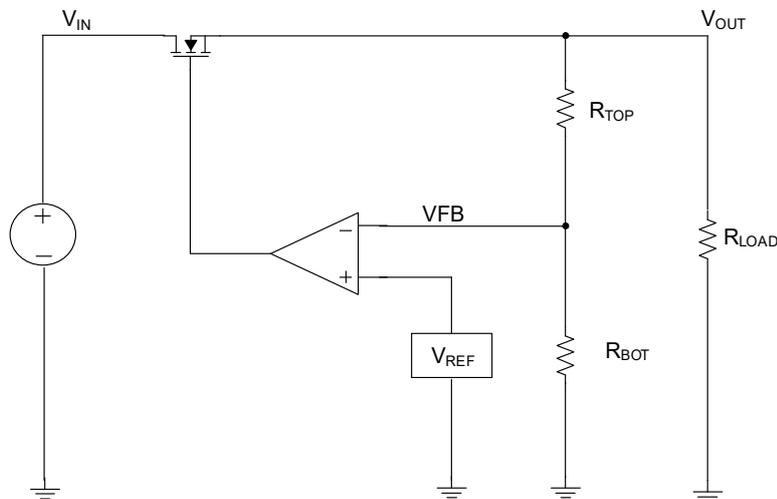

Figure 42. Simple NMOS LDO Regulator Block Diagram
Like the majority of LDOs with an NMOS pass transistor, the RAA214048 output voltage (V_{OUT}) regulation can be modeled with a voltage reference (V_{REF}), feedback (FB) resistors, error amplifier, and NMOS pass-transistor as shown in Figure 42.